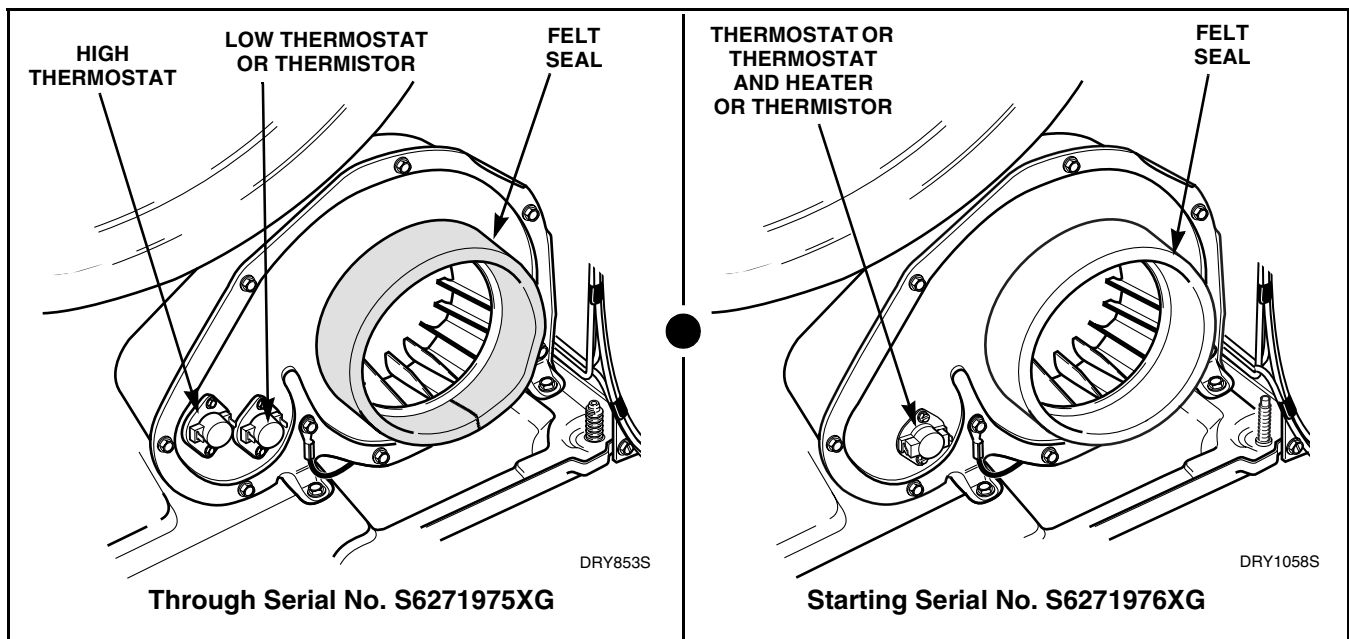

Figure 24
- Disconnect wires, remove thermostat attaching screws, and remove thermostat or thermostat and heater. Refer to *Figure 24*.
**NOTE:** When reassembling, be sure felt seal on exhaust fan cover makes air tight seal on flange of duct. Refer to *Figure 24*.
**NOTE:** When reassembling, be sure felt seal on exhaust fan cover makes air tight seal on flange of air duct. Refer to *Figure 24*.
- Disconnect wires from thermostats. Refer to *Figure 24*.